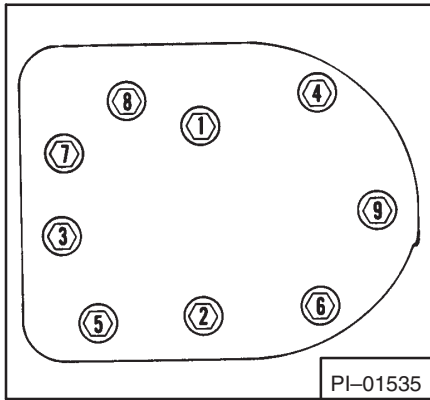

Fig. 61 Cylinder Head Tightening Sequence
- c. It is important that head cap screws be lubricated then tightened evenly and in sequence until proper torque is reached (Fig. 61).